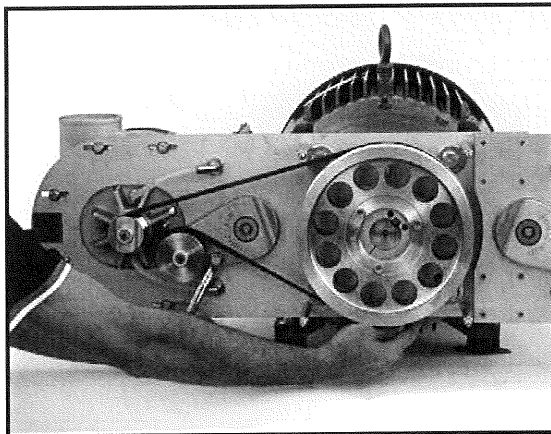

Figure 25 - Install New Belt
4. Using the 9/16 inch box-end wrench, rotate the belt tensioner arm counter clockwise (CCW). At the same time wrap the belt around the blower pulley, then along the right side of the idler pulley, and finally around the motor pulley. (See Figure 25)